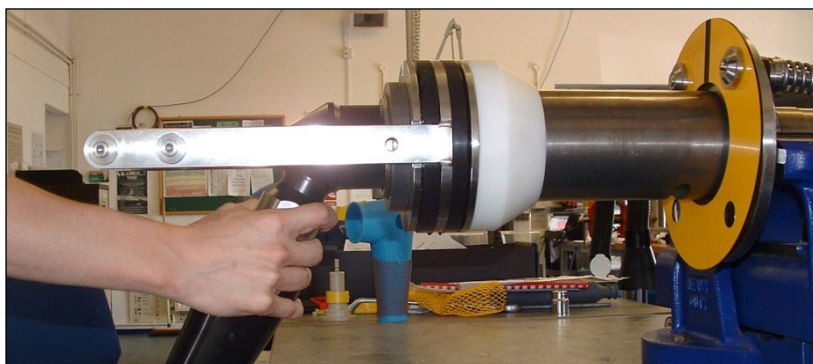
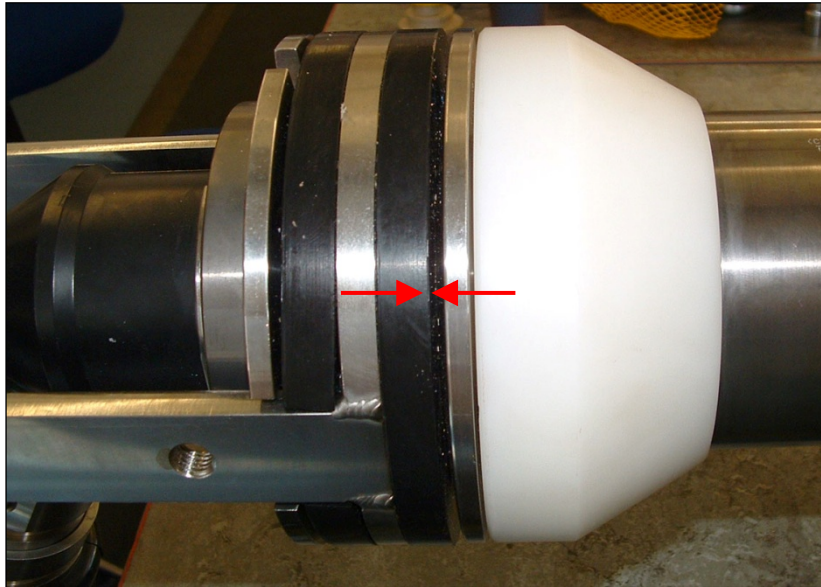

Figure 15 - Connectors mated. Pull angled downward section of body to check if Plug is correctly latched home.
Figure 16 - Connectors fully mated.
- To check if connectors are fully mated and Plug is correctly latched home, pull the Plug connector by holding the angled downward section of the plug body near to the hose termination (*DO NOT use the ROV handle*), as shown in Figure 15. If the connectors are correctly latched and mated no axial movement in the Plug connector should be present. As a visual inspection, the shoulder on the Plug should butt up against the shroud of the Receptacle. However, when relaxed there may be a *small* gap between the two (due to the springs in the Plug pushing against the Receptacle pins), as shown in Figure 16.